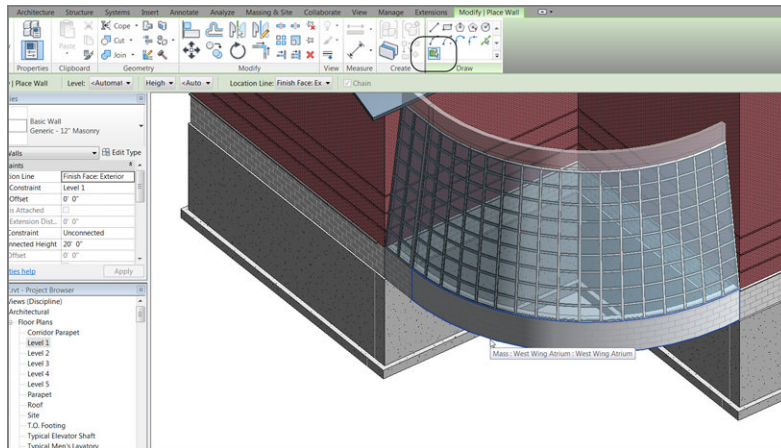

FIGURE 16.51: Adding something on which to bear
4. On the Draw panel, click the Pick Faces button, as shown in Figure 16.51.
6. Pick the bottom faces of the mass (see Figure 16.51).